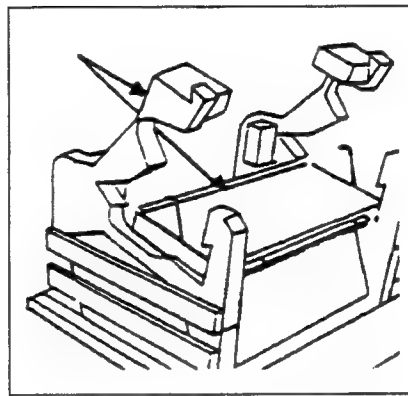

Figure 2-11. Remove Wire Form
- f. On the top of the sound shroud, pull the foam on either side of the wire form outward and carefully lift out the wire form (Figure 2-11).